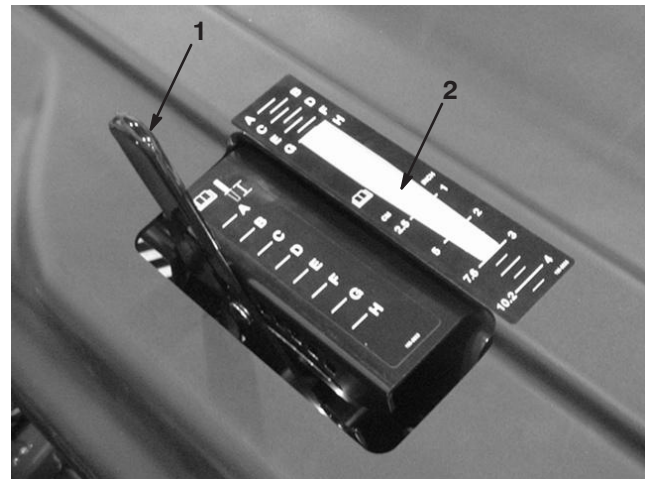

Figure 28
2. Lay the tine on the tine depth decal (Fig. 28) with one end lined up with the desired depth of aeration (see the tine overlay on the decal).